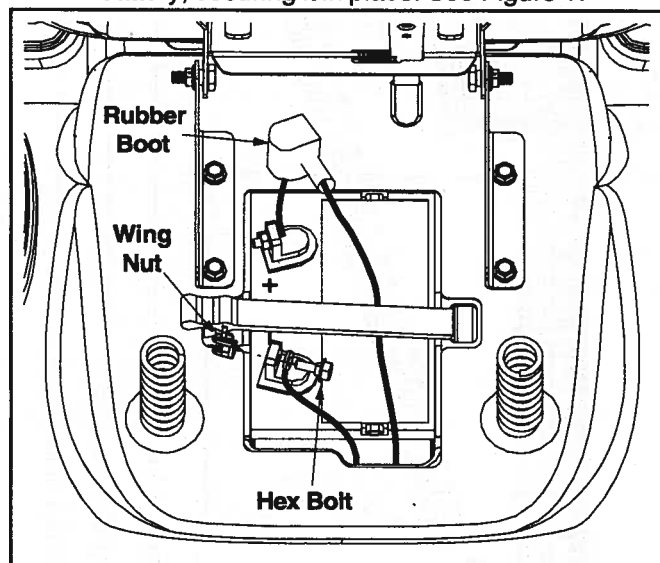

Figure 1
- Make certain the hold-down strap is in position over the battery, securing it in place. See Figure 1.